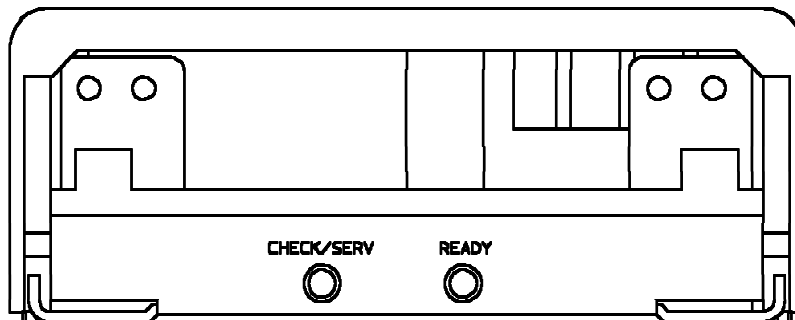

Figure 18. LED Locations (front view) —CxB Models.
The HPC electrical connectors are located as shown in Figure 15 on page 58. The indicators (LEDs) are located as shown in Figure 18 on page 62.
**Ultrastar XP SSA** drives contain option pins and/or indicators used to sense and report fault conditions, and to enable certain features of the drive. The electrical characteristics and requirements of these pins are fully compliant with the specifications described in the Electrical Specification section of *Serial Storage Architecture SSA-PH (Transport Layer), X3T10.1/989D rev 01*. The existence and definition of these pins are model dependent. Refer to Figure 14 on page 56 and Figure 18 on page 62 for locations of pins and LEDs on the front of the drive. Refer to Table 11 on page 64 and Table 12 on page 65 for locations of pins on the rear of the drive.